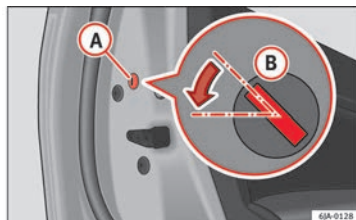

Fig. 133 Rear door: manual locking
- Remove the cap **A** » Fig. 133.